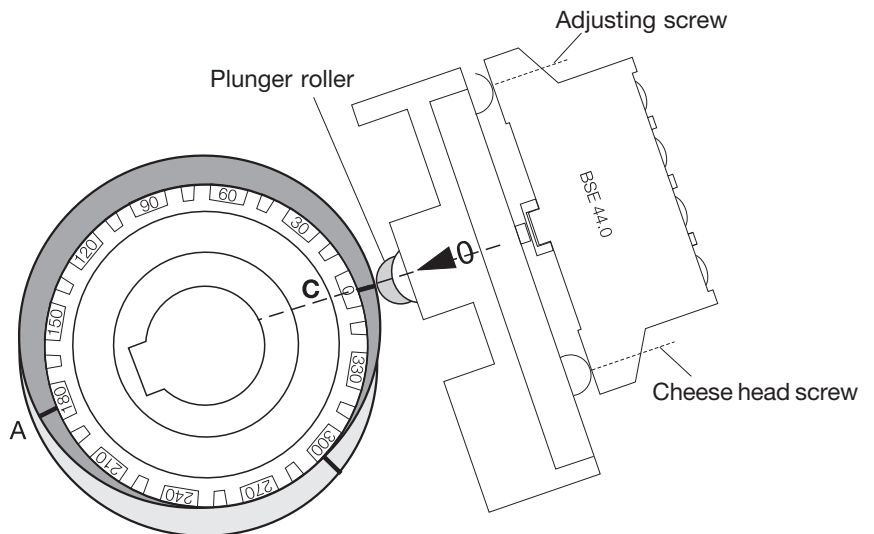

Fig. 14: Replacing and adjusting the switch element using the example of a BSE 44, switch-on point at notch C
1. Tighten the new switch element using the cheese-head screw (Fig. 14).